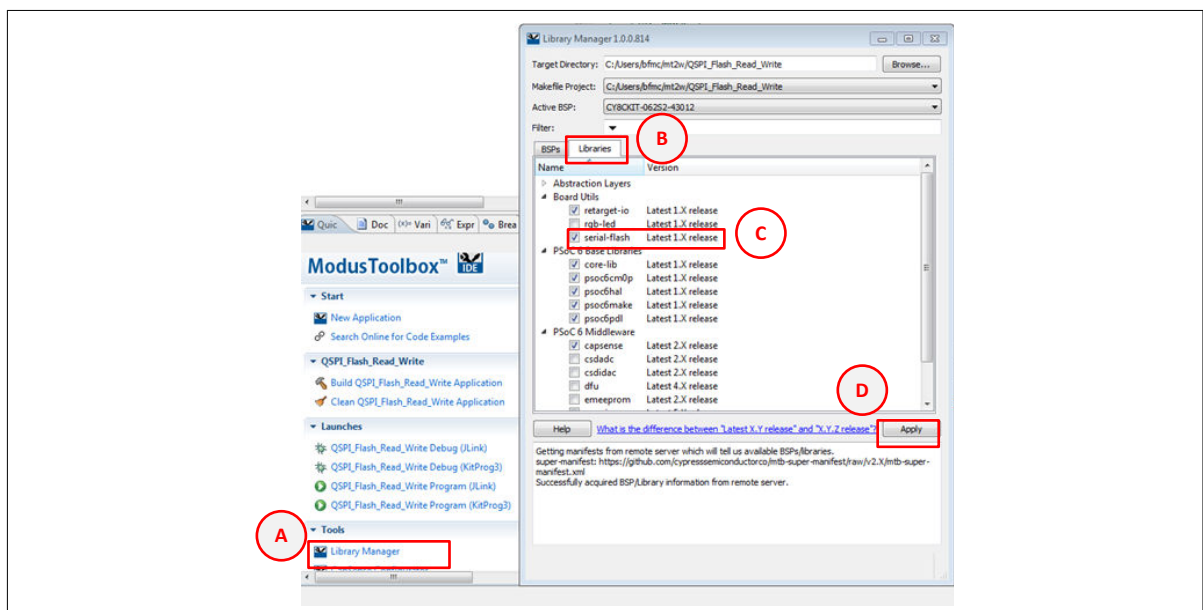

Figure 1 Adding Serial Flash Library
1. Enable the library in the **Library Manager** (see Figure 1)